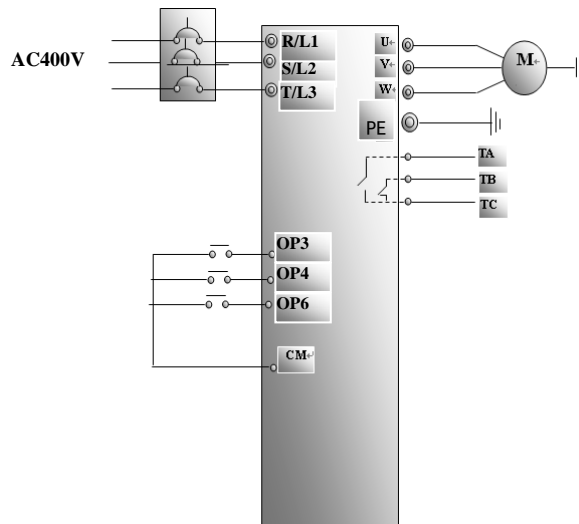

Figure 4-2 Wiring Diagram 2
- (1) Connect the wires in accordance with Figure 4-2. After having checked the wiring successfully, switch on the air switch, and power on the inverter;